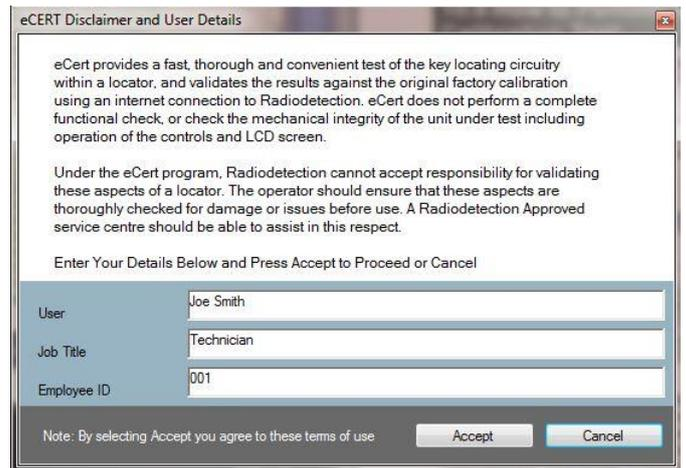

Figure 6.7: eCert Disclaimer and User Details window
7. Press the **Run eCert** button. The eCert Disclaimer and User Details window will open, figure 6.7